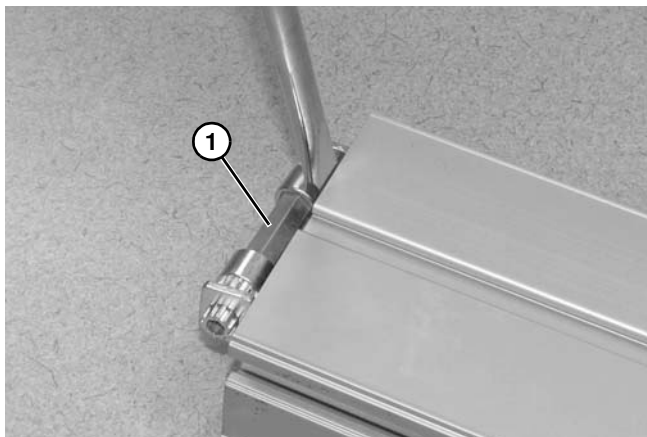

Figure 88
3. Pry pinion assembly (**Figure 88, item 1**) from conveyor frame by alternating sides.